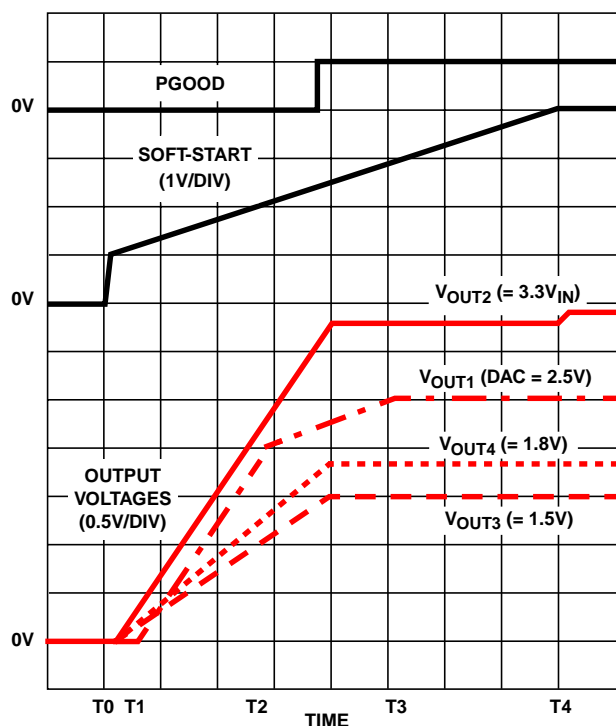
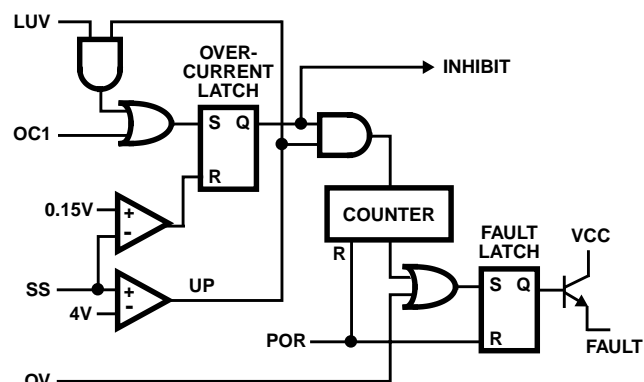

FIGURE 2. SOFT-START INTERVAL
FIGURE 3. FAULT LOGIC - SIMPLIFIED SCHEMATIC
Figure 2 shows the soft-start sequence for the typical application. At T_0 the SS voltage rapidly increases to approximately 1V. At T_1 , the SS pin and error amplifier output voltage reach the valley of the oscillator's triangle wave. The oscillator's triangular waveform is compared to the clamped error amplifier output voltage. As the SS pin voltage increases, the pulse width on the PHASE pin increases. The interval of increasing pulse width continues until each output reaches sufficient voltage to transfer control to the input reference clamp. If we consider the 2.5V core output (V_{OUT1}) in Figure 2, this time occurs at T_2 . During the interval between T_2 and T_3 , the error amplifier reference ramps to the final value and the converter regulates the output a voltage proportional to the SS pin voltage. At T_3 the input clamp voltage exceeds the reference voltage and the output voltage is in regulation.
Figure 3 shows a simplified schematic of the fault logic. An over-voltage detected on V_{SEN1} immediately sets the fault latch. A sequence of three over-current fault signals also sets the fault latch. The over-current latch is set dependent upon the states of the over-current (OC), linear under-voltage (LUV) and the soft-start signals. A window comparator monitors the SS pin and indicates when C_{SS} is fully charged to 4V (UP signal). An under-voltage on either linear output (V_{SEN2} , V_{SEN3} , or V_{SEN4}) is ignored until after the soft-start interval (T4 in Figure 2). This allows V_{OUT2} , V_{OUT3} , and V_{OUT4} to increase without fault at start-up. Cycling the bias input voltage ($+12V_{IN}$ on the VCC pin off then on) resets the counter and the fault latch.
Initially, the soft-start function clamps the error amplifier's output of the PWM converter. This generates PHASE pulses of increasing width that charge the output capacitor(s). After the output voltage increases to approximately 70% of the set value, the reference input of the error amplifier is clamped to a voltage proportional to the SS pin voltage. The resulting output voltages start-up as shown in Figure 2.